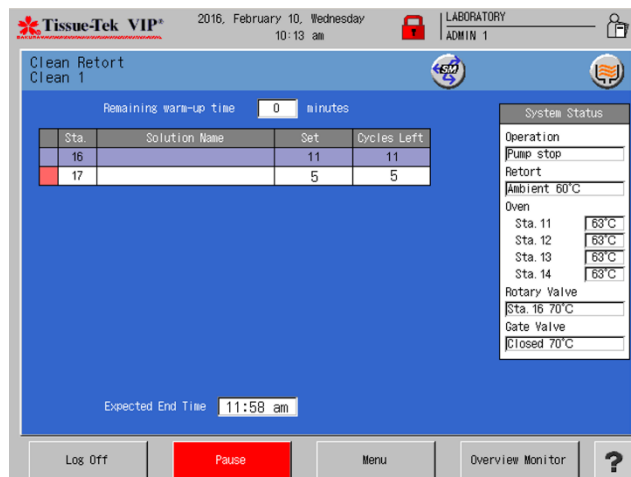

Figure 4-P
2. Touch **Detailed Monitor** to switch the display to the Clean Retort Detailed Monitor Screen (Figure 4-P).